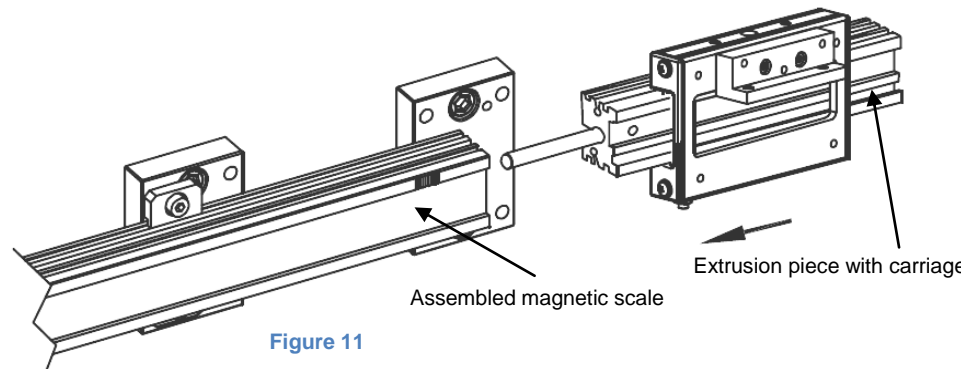

Figure 11
- From the open end insert the provided extrusion piece with the mounted carriage assembly. Figure 11.